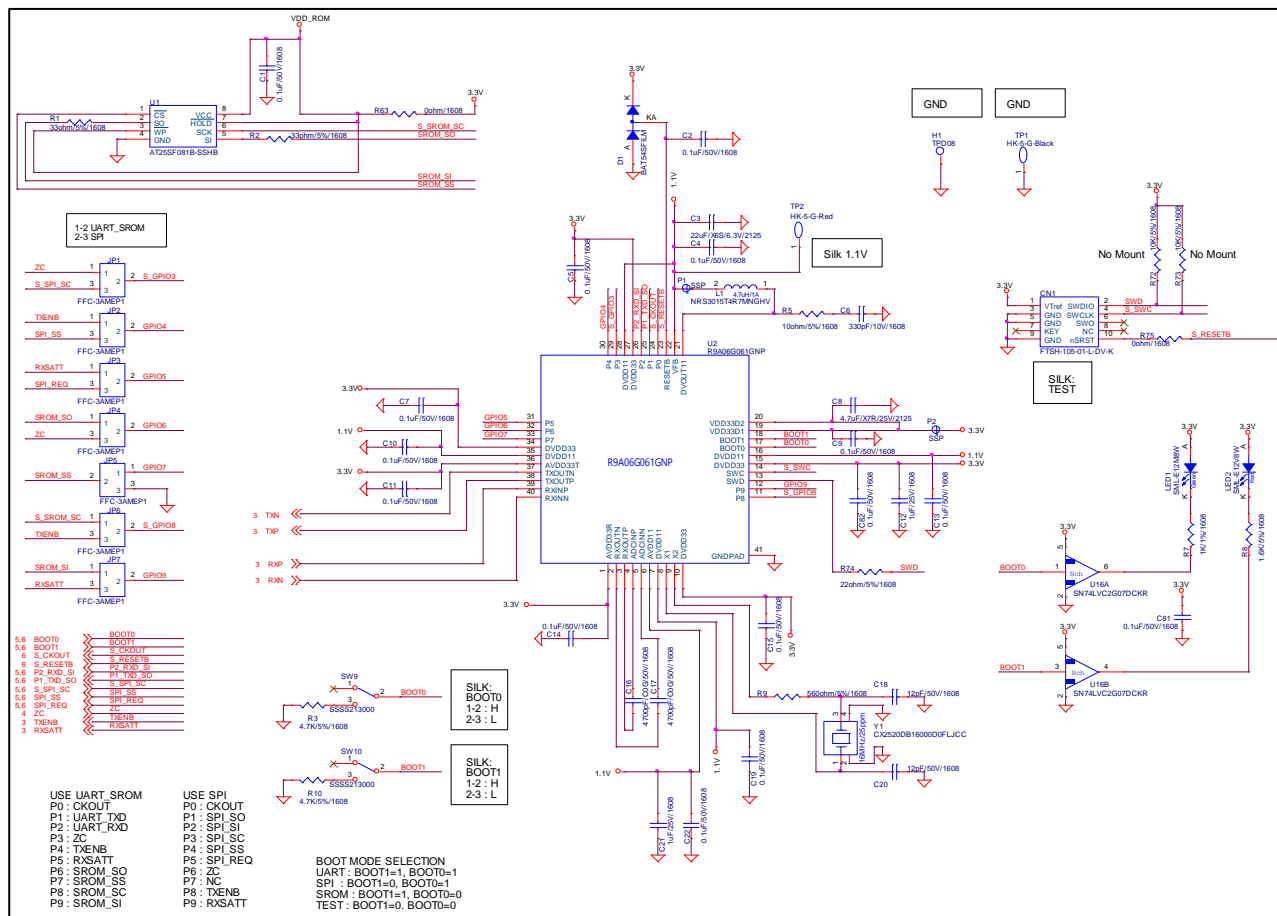
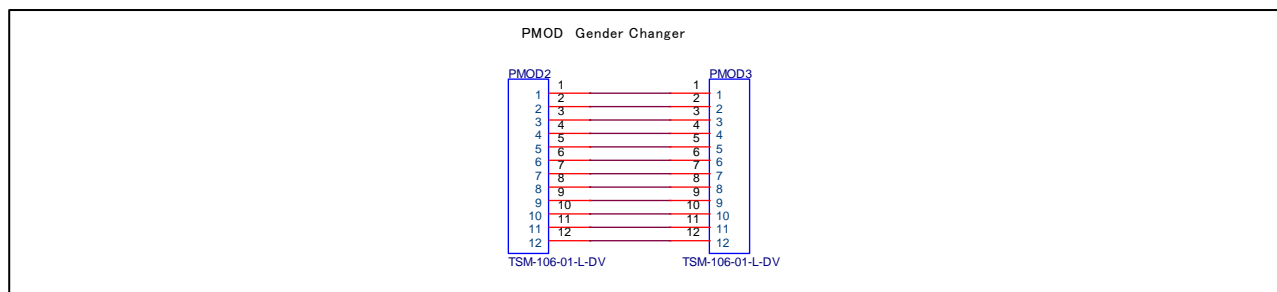

Figure 6-1 AC-PLC board (R9A06G061 peripheral circuit)
Figure 6-8 PMOD conversion board
- Section 6.1 shows an example of circuit design (Figure 6-1-Figure 6-8), and Section 6.2 shows an example of Bill of materials (Table 6.1-Table 6.5).